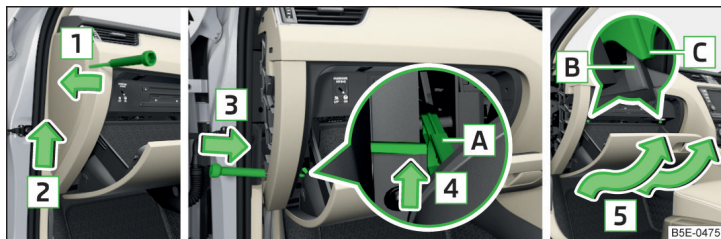

Fig. 351 Storage compartment on the front passenger side
- Insert a screwdriver under the side cover » Fig. 351.
- Move the stop buffer **B** of the storage compartment behind the brackets **C** » Fig. 351.